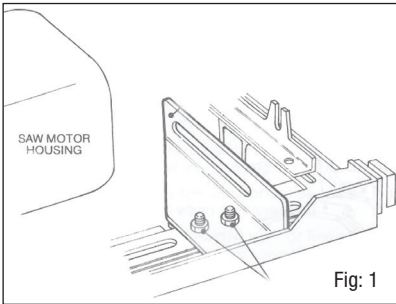

Fig: 1
1. Loosely fit the Base Bracket (A) onto the slide chassis, as in Fig 1, so that its vertical section is in line with or just clear of the end of the saw's motor housing.
2. Use two of the  $\frac{1}{4}$ " x  $\frac{1}{2}$ " Coach Bolts (I), Spring Washers (K) and  $\frac{1}{4}$ " Nuts (J), and finger tighten only.